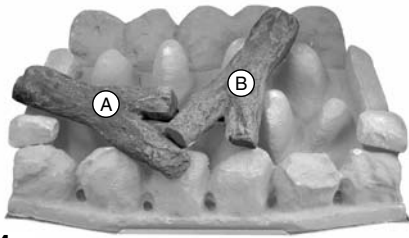

Fig. 34
5. Lay the logs in alphabetical order. It is important that the logs 'nest' together and sit on top of the fuel bed peaks (Fig. 34).